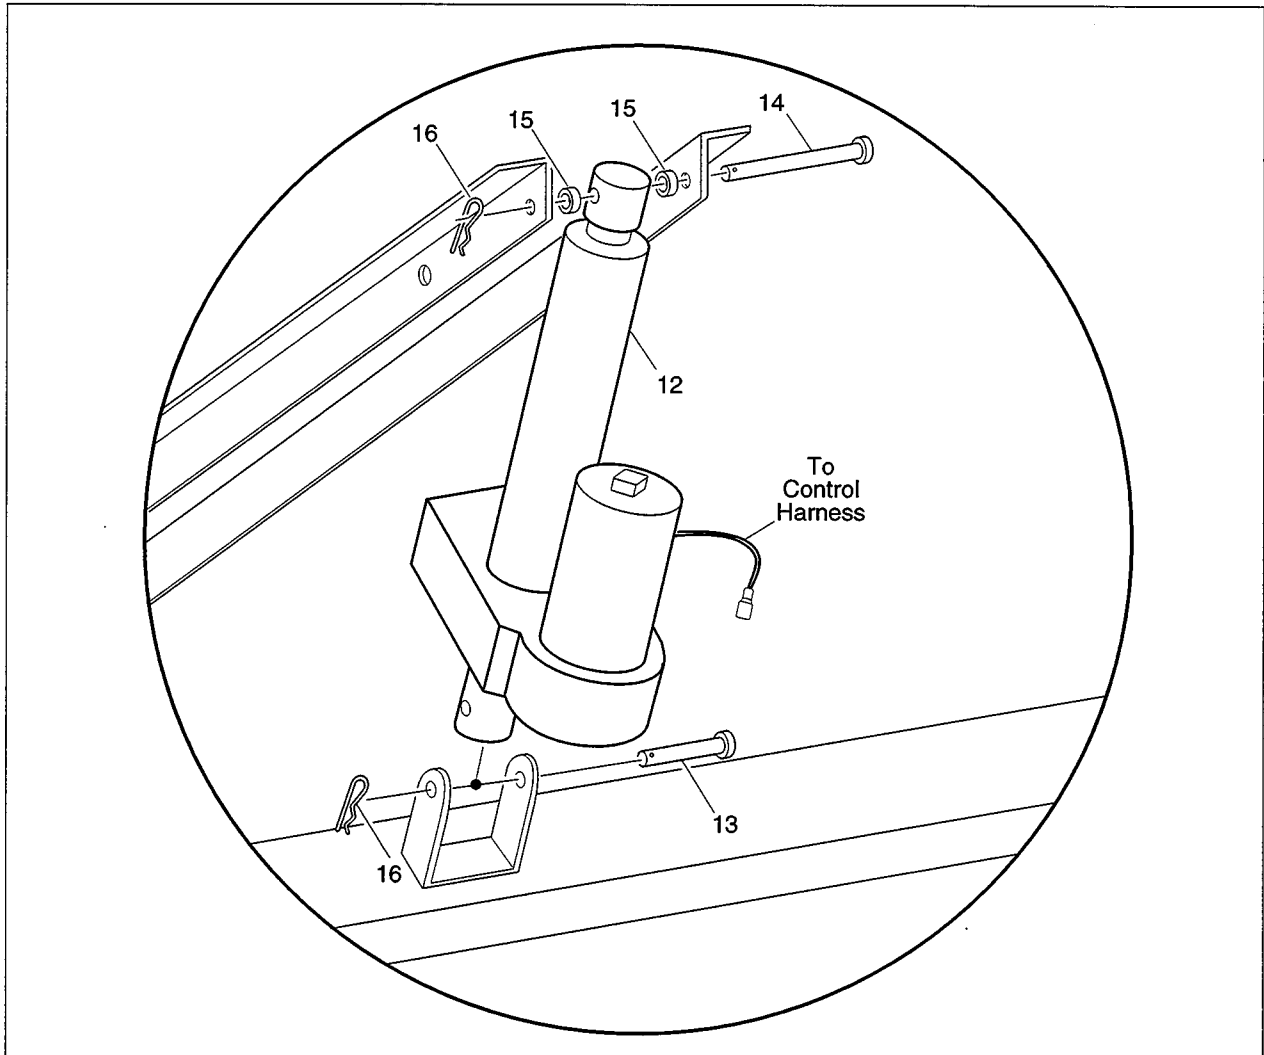

Fig. 7 Electric Actuator Installation
6. Place one spacer (Item 15) on each side of electric actuator and insert 3" clevis pin (Item 14) through the center supports of the truckbed frame, the spacers and the electric actuator. (See Fig. 7)